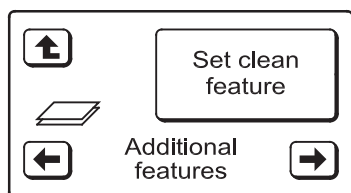

FIG. 59
4. Press the ADDITIONAL FEATURES button to display the screen shown in Figure 59.